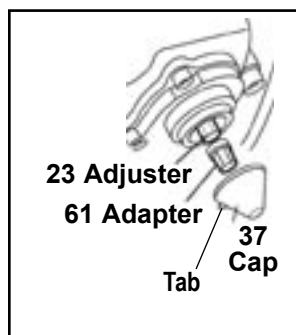

FIGURE 25 - EXPLODED VIEW OF ADJUSTER AND ADAPTER
Although exploded view (Figure 25) shows the adjuster (23) and shear adapter (61) separated, only turn the adjuster with the shear adapter installed on the adjuster. Using a box-end wrench or socket, turn the Shear Adapter (61) **counter-clockwise** and listen for the sound of 2 or 3 clicks as the mechanism increases the running clearance. Note: Do not use an open-ended wrench as this may damage the adapter.